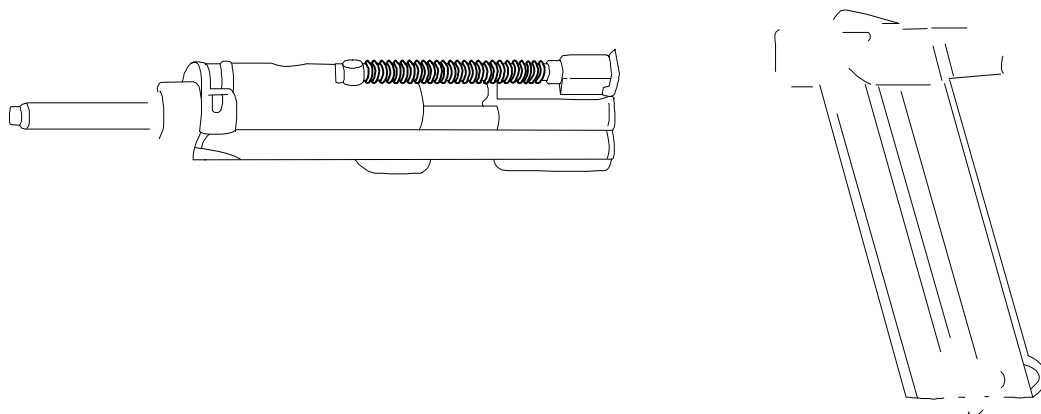

Figure 7-3. M261 Conversion Kit.
(1) Firing 5.56mm. Use of 5.56mm ammunition is recommended if the impact area to support it is available. Use tracer rounds to get the full training benefit from this device. Wear and tear from firing large numbers of tracer ammunition must be considered to protect the rifle's serviceability.
(2) Firing .22 Caliber. To fire .22 caliber ammunition, the bolt and carrier of the M16A2 must be replaced by the .22 caliber rimfire adapter. The M261 conversion kit (see fig. 7-3) includes one bolt adapter assembly and three magazine adapter